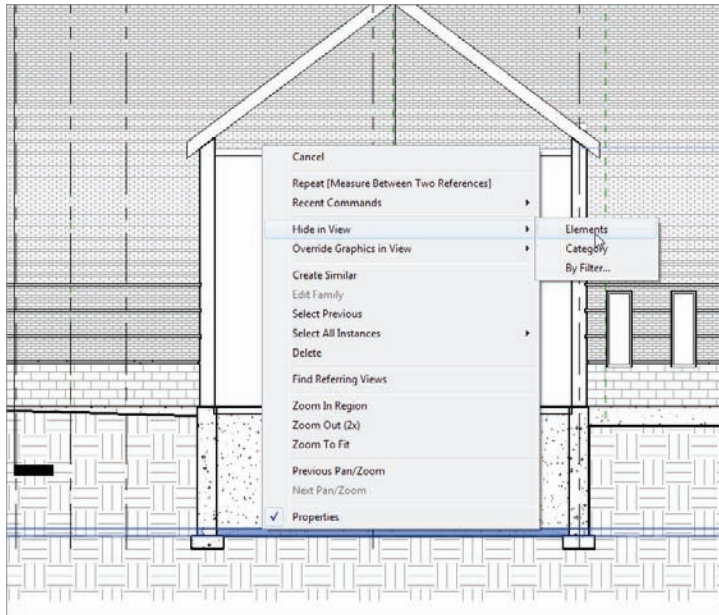

FIGURE 18.23 Hiding the pad in the view
13. You can see the pad sitting on top of the footing extending past the wall, as shown in Figure 18.23. Select it.
14. When the pad is selected, right-click, and select Hide In View > Elements (see Figure 18.23).